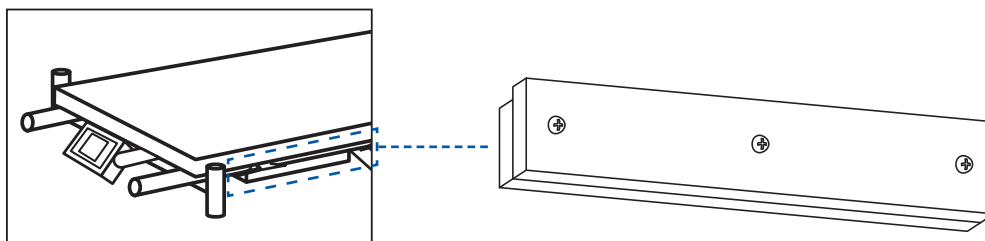

Figure 3
1. Locate the battery compartment on your lift or gurney. The compartment can be found on the side of the unit near the scale head (Figure 3).